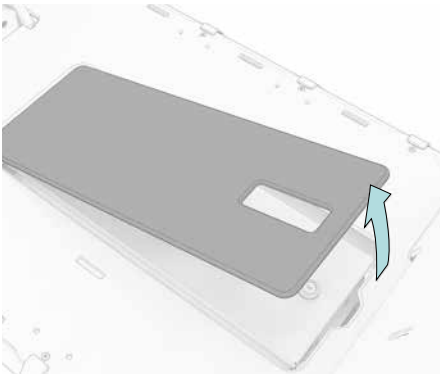

Fig. 19
1. Reach into the recess of the cover plate and remove the plate (Fig. 19).